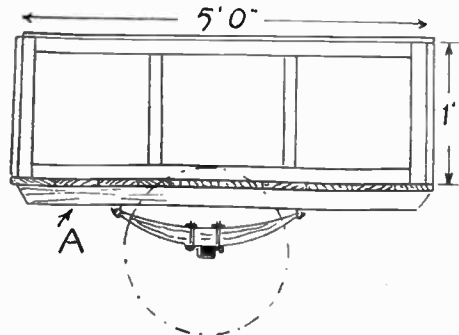

Fig. 1—Side view of body and spring
Fig. 1 shows a side view of the trailer, and Fig. 2 an end view. From these the general dimensions of the vehicle can be taken. The wheelwork is of importance, however, and if the reader can purchase a second-hand chassis in good order, of course, it would be wise to see to that part first, as any amendments to the dimensions of the box body can then be noted to ensure the body fitting the bought chassis.
For the corners cut the tenons with a shoulder to them, as at (B) in Fig. 1. When cutting out the accompanying mortises, it is as well to allow the wood